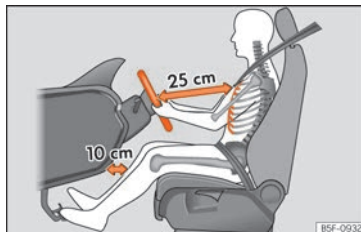

Fig. 85 The proper distance between driver and steering wheel.
»» **Fig. 85.**
- Adjust the driver's seat so that there is at least 25 cm distance between the centre of the chest and the centre of the steering wheel » **Fig. 85.** If distance is less than 25 cm, the airbag system may not protect you properly.